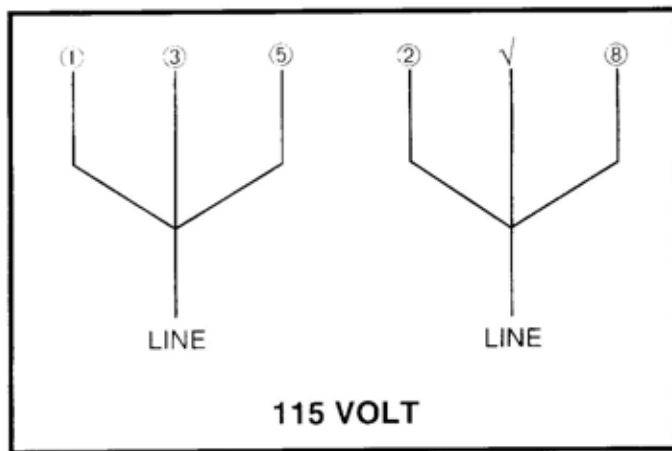
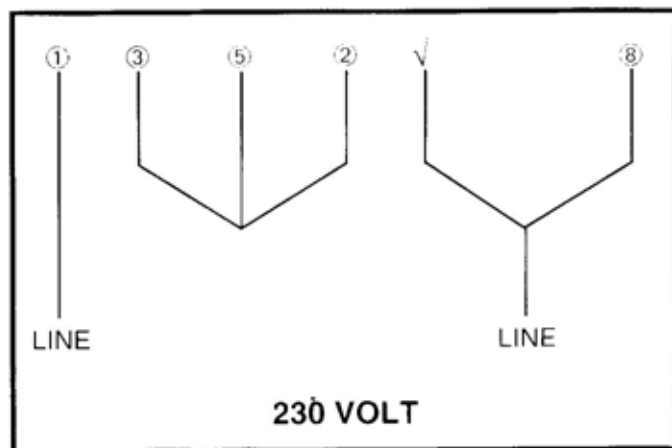

Fig. 28
Fig. 29
2. The motor supplied with this jointer is supplied with six motor leads that are connected for 115 Volt operation, as shown in Fig. 28. Reconnect these six motor leads for 230 Volt operation, as shown in Fig. 29.